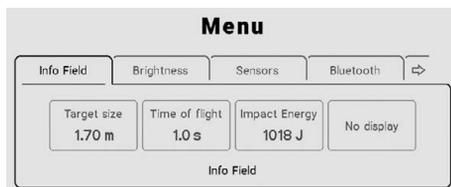

Abb. 6
6. To go to the menu for the basic settings for the IFS (Fig. 6): press the On/Off button (3/1) again briefly.